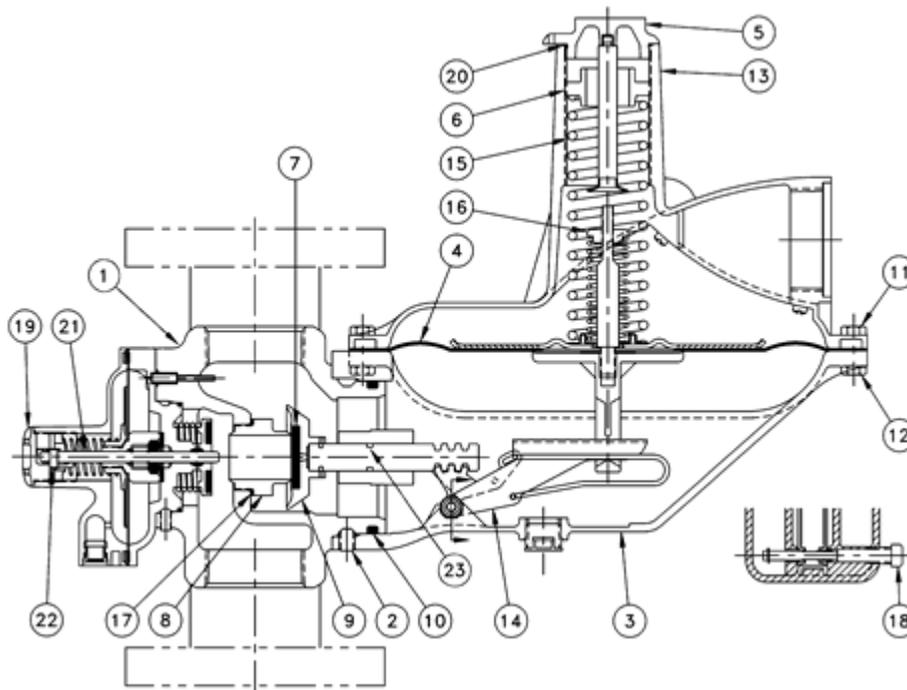

Figure 1
Changing And Adjusting The OPSO Pressure Spring – Figure 1:
1. Referring to Figure 1, remove the main regulator assembly (3) from the valve head (1).
2. Remove seal cap (5), main spring adjusting screw (6), and main spring (15).
3. Remove the twelve 5/16" bolts (11) holding the regulator top to the lower diaphragm chamber.
4. Remove the regulator top (13) and the diaphragm assembly (4) where it engages with the lever (14). Caution should be used not to damage the diaphragm assembly during disassembly.
5. Remove the lever (14) and plunger (22).
6. Degrease plunger and install plunger O-Ring (23).
11. Remove the seat disc assembly (9) from the plunger.